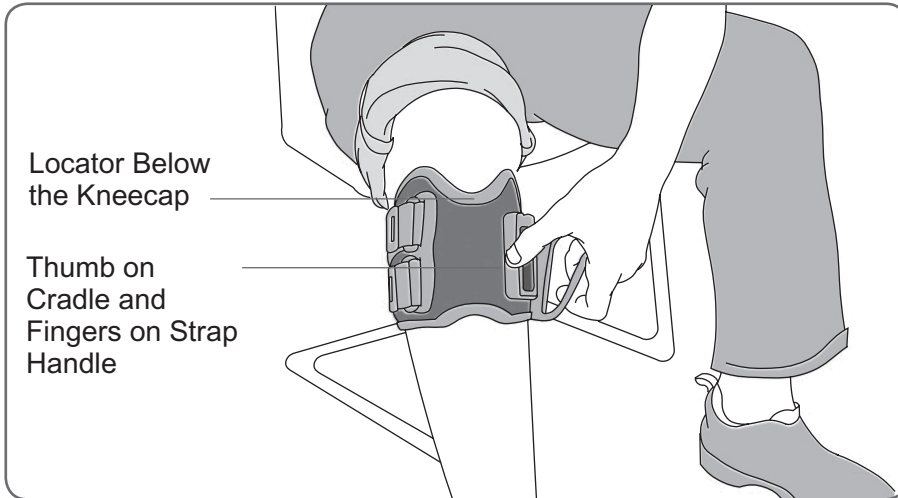

Figure 6: Fastening the FS Cuff strap.
6. Grasp the handle of the FS Cuff strap. See Figure 6. With your thumb on the FS Cuff cradle, fasten the strap handle around the cradle.